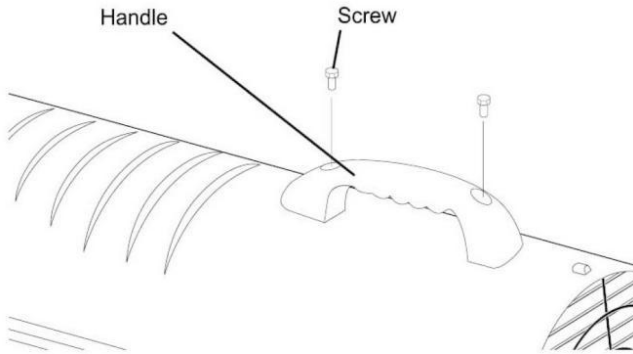

Figure 6. Handle Mounting, Model ZB-K70
- 1.Align the holes in the upper housing with the 2 holes in the handle as shown in Figure 6.